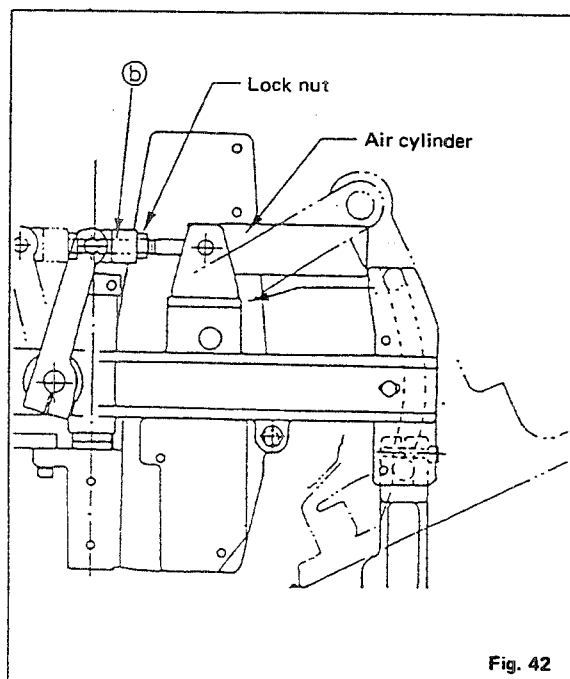

Fig. 42
4. Adjust to obtain a 1.3 mm clearance between the bottom face of the welt patch base plate and the surface side of the sewing table by turning cylinder joint (b) in Fig. 42. Loosen the locknut and turn cylinder joint (b) in the direction which tightens the air cylinder rod to lower the welt patch base plate, or in the direction which loosens the air cylinder rod to raise the welt patch base plate. After obtained a 1.3 mm clearance correctly, securely tighten the locknut.